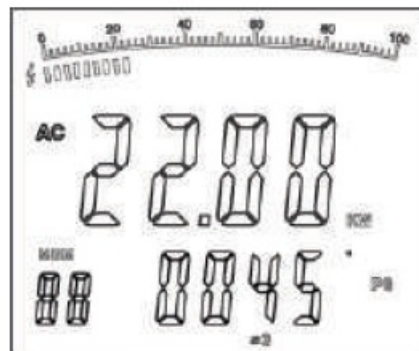

Figure 11
4. After recording the current power measurement value of the second phase, then press SEL Ø3 again to choose. The double display shows the value of active power KW and PG of the third phase, as in figure 11.